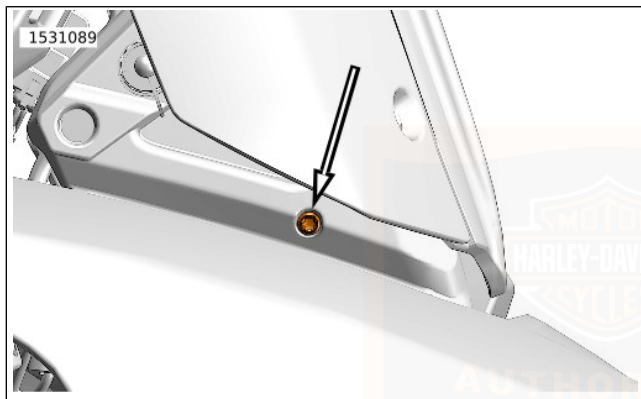

Figure 82. Bank Angle Light Screw (right side shown)
1. See Figure 82. Loosen bank angle light screws.
3. See Figure 82. Tighten screws.